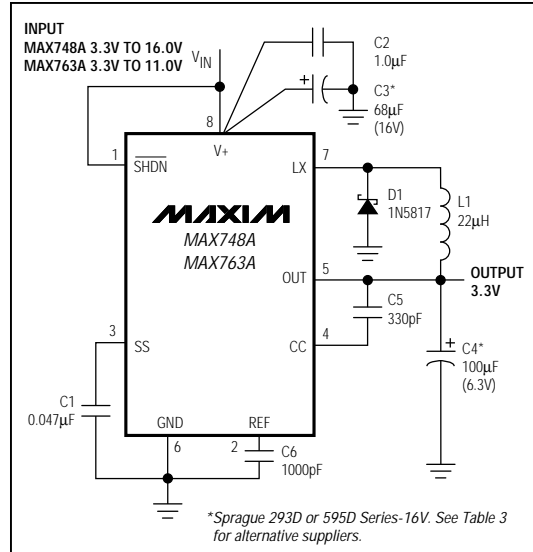

Figure 5. Standard 3.3V Step-Down Application Circuit Using Surface-Mount Components (Commercial and Extended Industrial Temperature Ranges)
**Note 3:** Wide temperature range circuit of Figure 5 using Sprague surface-mount capacitors.